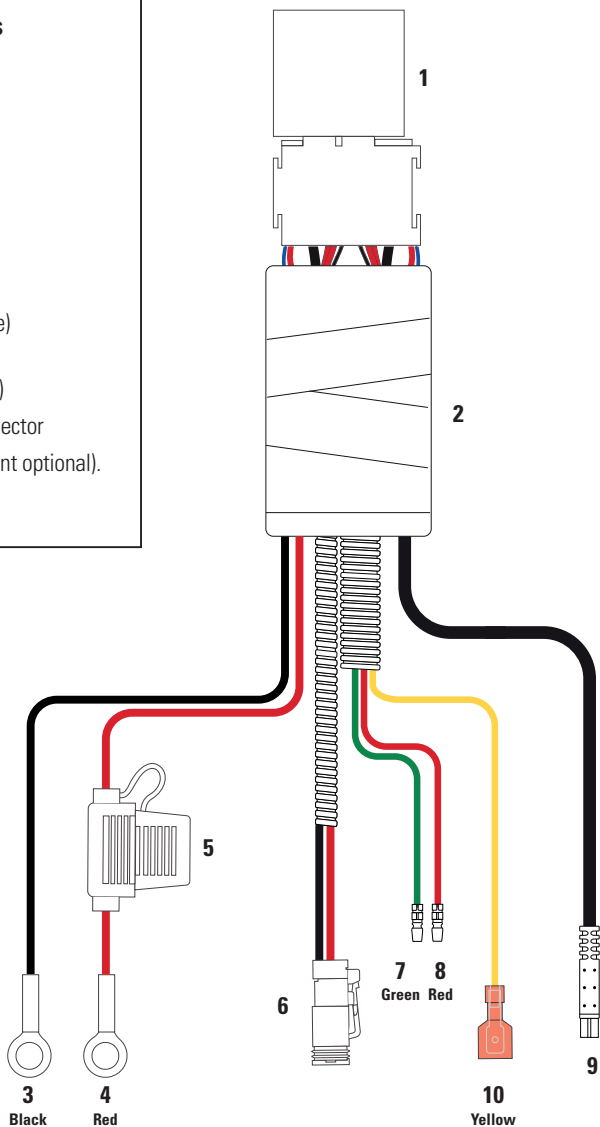

Fig 6. Dash Switch connector
5. Locate a suitable position on the dash and then connect the dashboard switch loom connector on the wiring harness to the dashboard switch loom pictured in Figure 6.